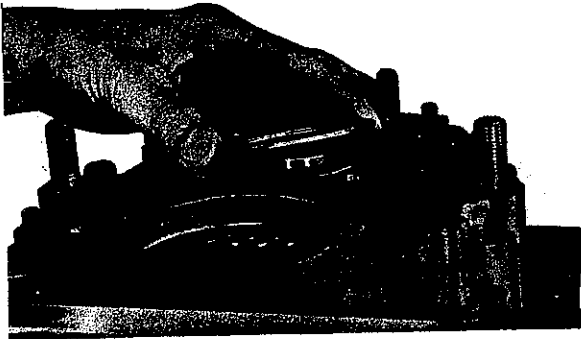

Fig. 43
3. Place one compensating washer (301) 0 to 0.05 mm thicker than the measured dimension on outer race of front bearing (Fig. 43).